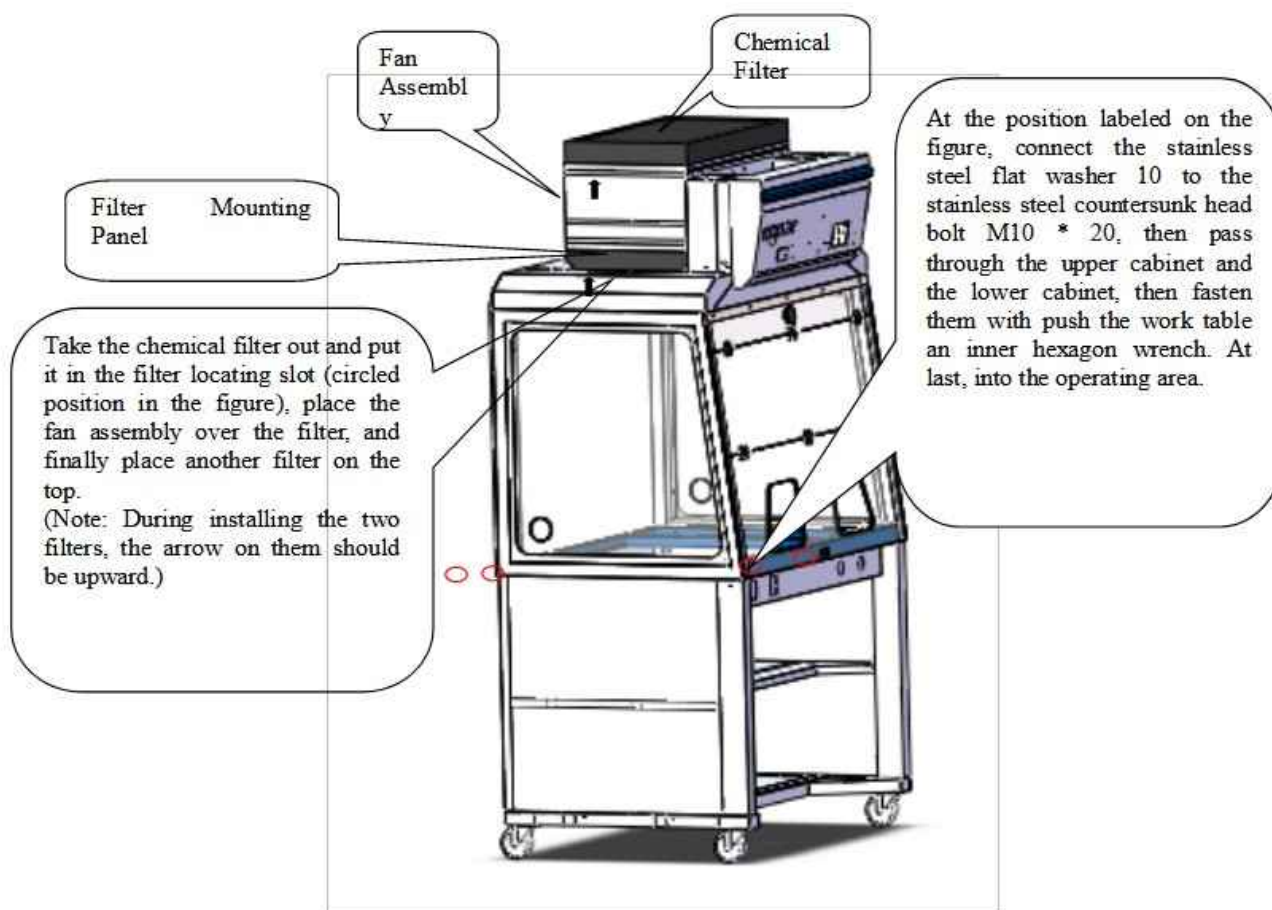

Figure 7
- (1) Place the lower cabinet in the proper installation position, brake the caster brakes, then place the upper cabinet on the lower cabinet, and let the left, right, rear side of the upper cabinet align with those of the lower cabinet;
- (2) Fix the upper and lower cabinets to prevent skidding and open the front acrylic door on the upper cabinet, and then take the accessories out: including stainless steel hexagon socket head cap bolts M10 * 20 and stainless steel large flat washer 5, and fasten well the lower cabinet and the upper cabinet, as is shown in Figure 7